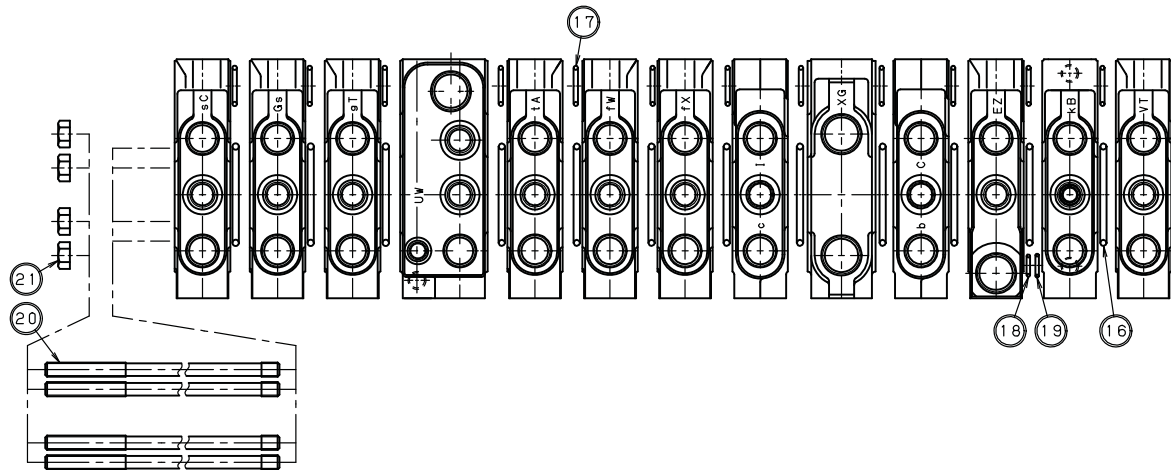

Fig.13 Body Assy
**(6) Component body disassembly procedures** (see Fig.13)
- ① Loosen and remove 4 M8 hex nuts (21) for assembling component bodies on the dozer (body-Work "sC") side with 13 mm screw wrench or socket wrench.
- ② When 4 tie bolts (20) are pulled out from the dozer side, each component body can be removed.